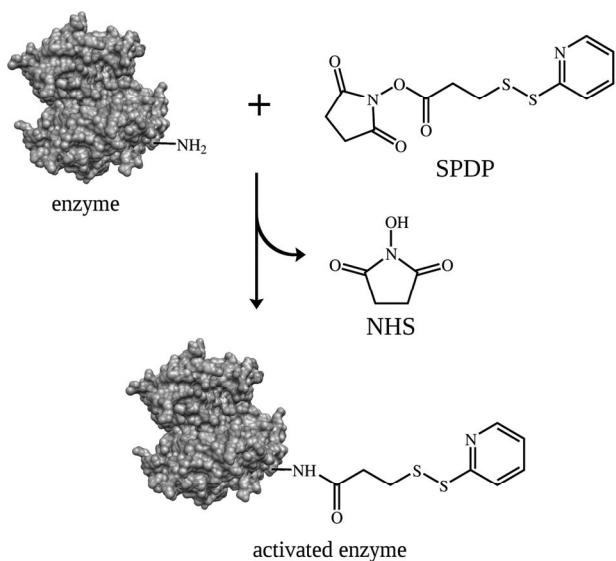

Figure 2. Reaction of the enzyme with the crosslinking reagent.
5. Mix the SPDP/DMSO solution with the enzyme solution (Fig 2): The optimal SPDP:enzyme ratio varies for different enzymes, but 3-30 μ L of SPDP solution per mL of enzyme solution is appropriate for enzyme concentrations of 1-10 mg/mL (a molar ratio of 5:1 SPDP:enzyme is a good starting point). The reaction will be complete after 30 minutes at room temperature.